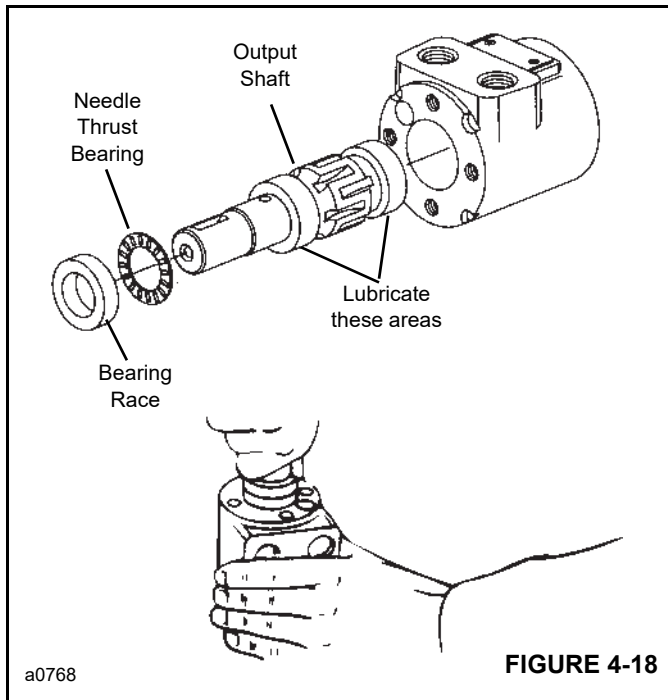

FIGURE 4-18
3. Install needle thrust bearing (8), then bearing race (7) on shaft (9). Pull shaft partially out of housing. Push all three parts in housing (10) together Figure 4-18. The bearing race must rotate freely when in position.